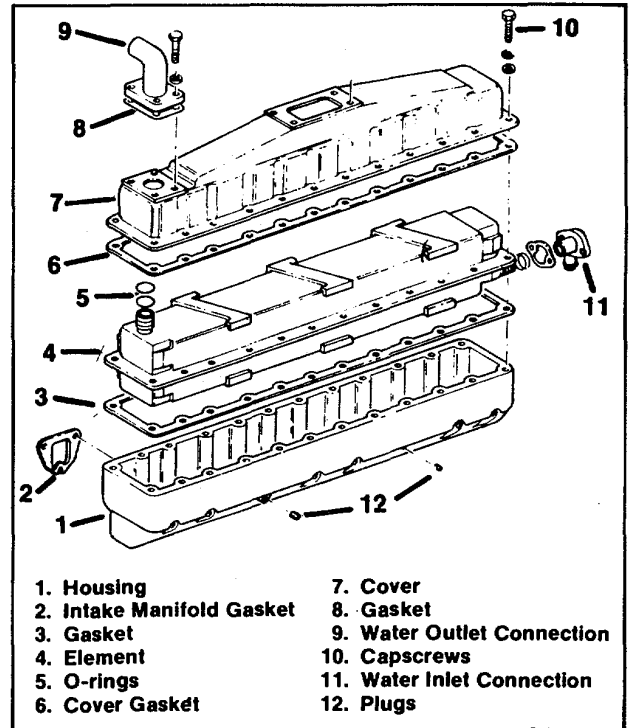

Fig. 10-1 (N10898). Aftercooler - Exploded View.
1. Put the aftercooler housing (1, Fig. 10-1) on a workbench. Hold the housing so that it will be in the same position as it is on the engine.
2. Put the gasket (3) on the housing. Apply clean lubricating oil to the new O-rings. Install the O-rings onto the water inlet and outlet fittings of the element (4). Fit the element into the housing.
3. Install the water inlet connection (11) and new